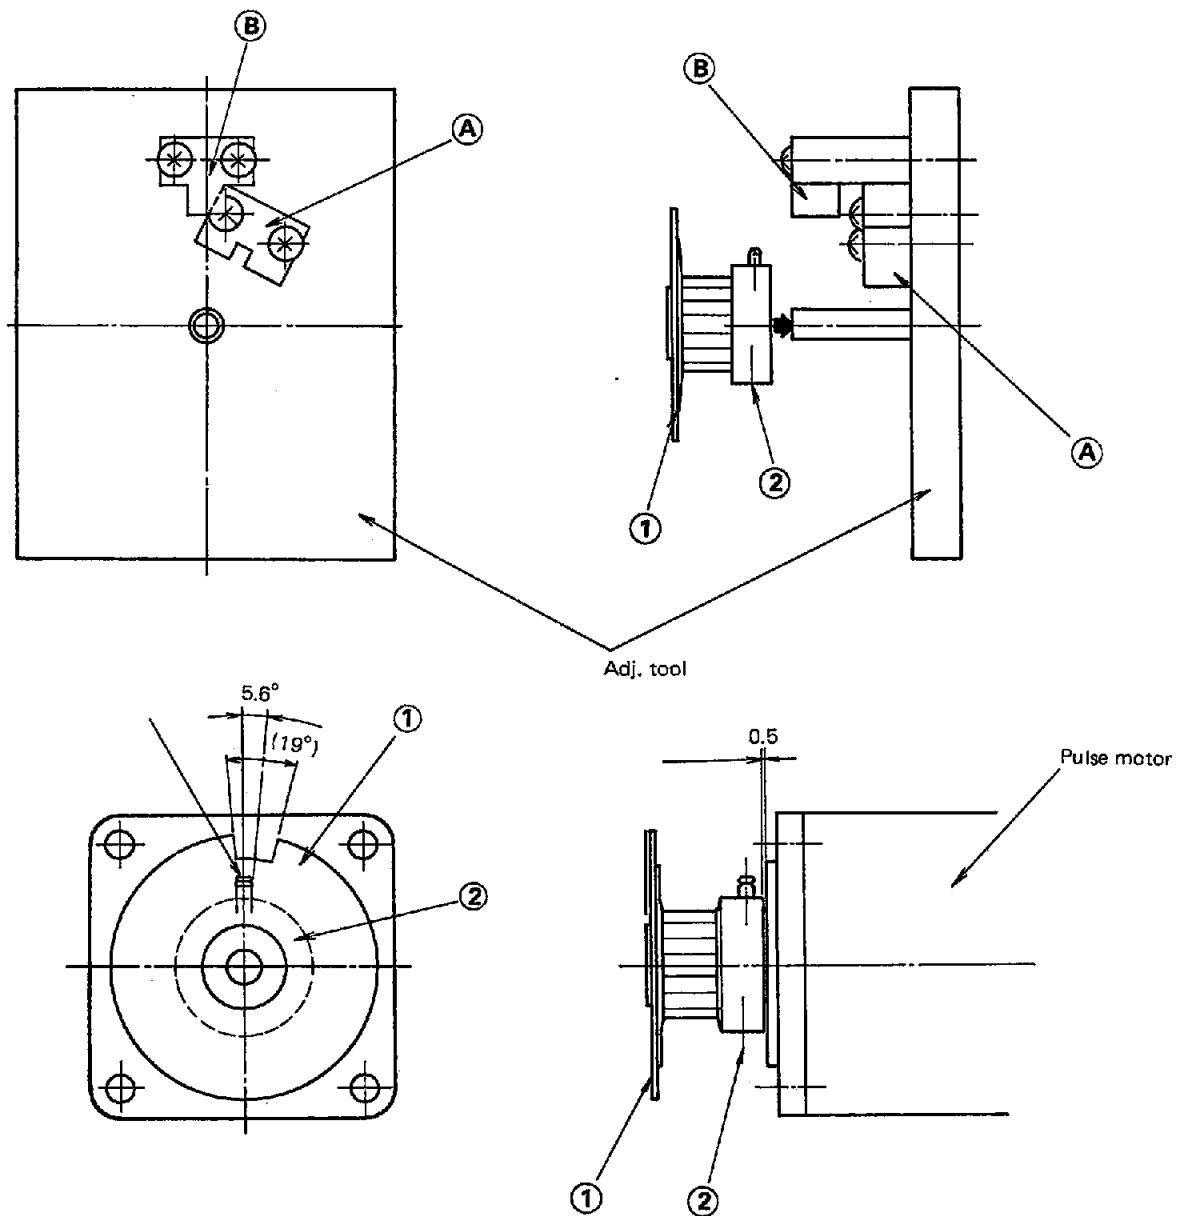

Fig. 8-12-1
- (1) Loosen 2 hex. screws of pulley ① and stopper ②.
- (2) Insert pulley and stopper into adjuster tool as guided by arrow in Fig. 8-12-1.
- (3) Adjust pulley and stopper so as to fix to a guide of adjuster tool.
Note: Corresponding angles between stopper and pulley are shown in Fig. 8-12-1 and 2.